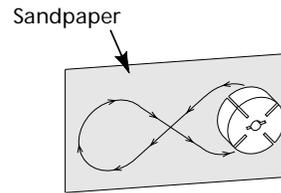

Figure 27 - Sanding Rotor
14. Place fine grade sandpaper (600 grit) on flat surface. Sand rotor lightly in "Figure 8" motion four times (See Figure 27).